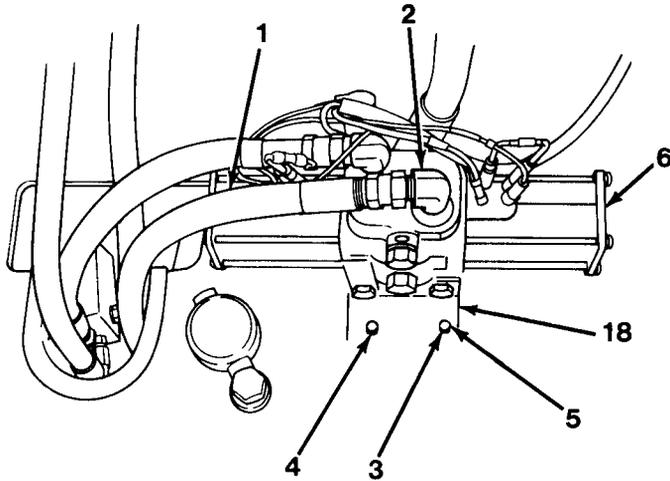

Figure 13-1
2. Disconnect four electric wires connected to outrigger solenoid valve (6, Figure 13-1).
1. Position outrigger solenoid valve (6) over mounting holes in outrigger box and install four capscrews (5), washers (4) and nuts (3, Figure 13-1).
2. Install three elbows and O-rings (2).
3. Connect three hoses (1) on elbows (2).